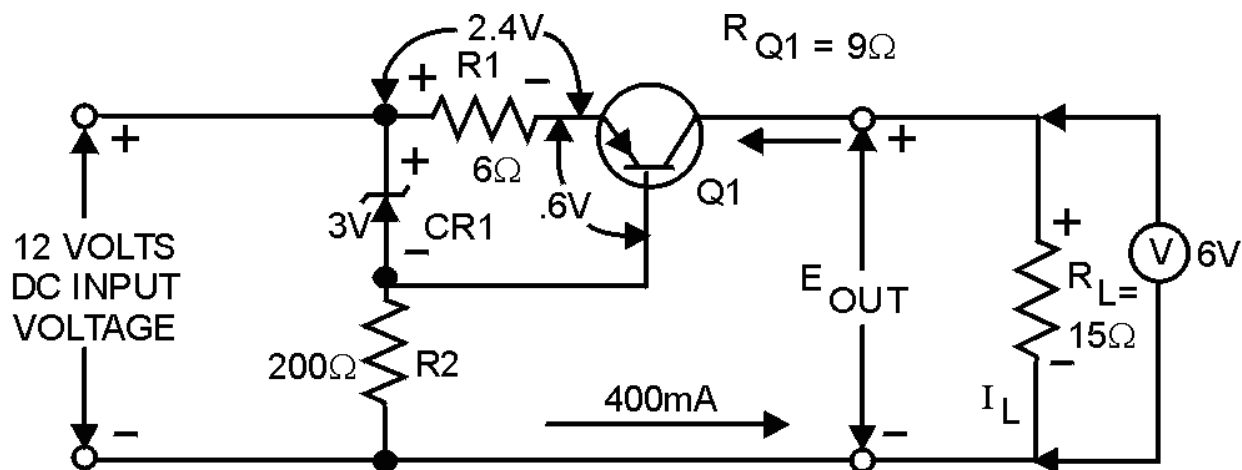

Figure 4-42.—Current regulator (with circuit values).
The purpose of a current regulator is to provide a constant current regardless of changes in the input voltage or load current. The schematic shown in figure 4-42 is that of a circuit designed to provide a constant current of 400 milliamperes. Voltmeters are shown in the schematic to emphasize the voltage drops across specific components. These voltages will help you understand how the current regulator operates. The voltage drop across the base-emitter junction of Q1 is 0.6 volt. This voltage is the difference between the Zener voltage and the voltage drop across R1. The 0.6-volt forward bias of Q1 permits proper operation of the transistor. The output voltage across R_L is 6 volts as shown by the voltmeter. With a regulated current output of 400 milliamperes, the transistor resistance (R_{Q1}) is 9 ohms. This can be proved by using Ohm's law and the values shown on the schematic. In this case, current (I) is equal to the voltage drop (E) divided by the resistance (R). Therefore: 12 volts divided by 30 ohms equals 0.4 ampere, or 400 milliamperes.